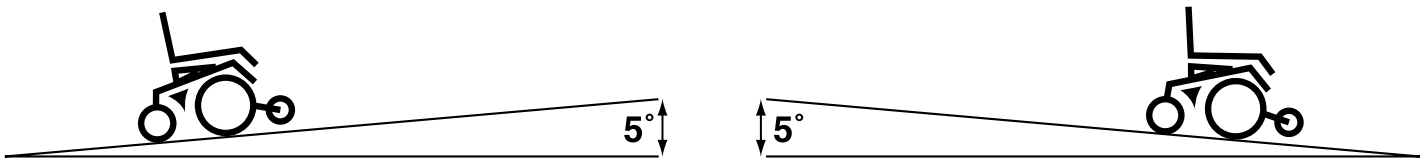

Fig. 1. Maximum Safe Angle (Ascending and Descending)
**WARNING!** Even though your power chair is capable of climbing slopes greater than those illustrated in figure 1, do not, under any circumstances, exceed the incline guidelines or any other specifications presented in this manual. Doing so could cause instability in your power chair, resulting in personal injury and/or damage to your power chair.
In compliance with the Americans with Disabilities Act of 1990, all handicap public access ramps are required to have a maximum slope of 5°. Therefore, Pride recommends that the maximum slope of an incline you attempt to safely ascend or descend on your power chair does not exceed 5°. See figure 1.